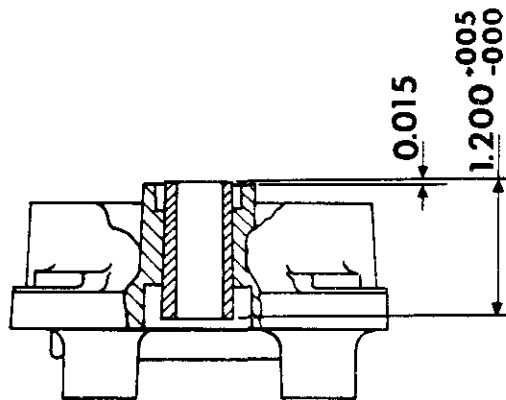

Figure 4.
4. Use a suitable cutting tool and turn so that overall length of bushing is $1.200 + .005 - .000$ inch as shown in figure 4. (A Carbide tipped tool is recommended.)
of reworked bushing. See figure 4.